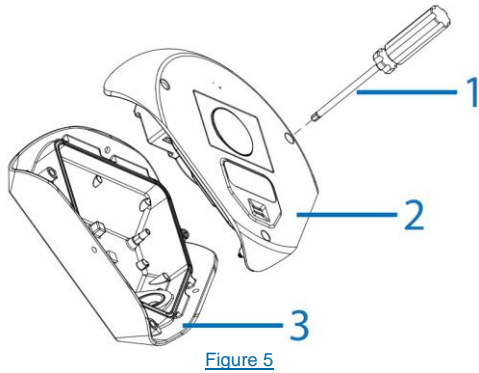

Figure 5
1. Use the T20 Torx wrench (1) (Figure 5) and loosen the three T20 screws located on the camera top cover (2) (Figure 5), and then remove the camera cover from the camera base (3) (Figure 5).
1. Use the T20 Torx wrench (1) (Figure 5) and loosen the three T20 screws located on the camera top cover (2) (Figure 5), and then remove the camera top cover from the camera base (3) (Figure 5).